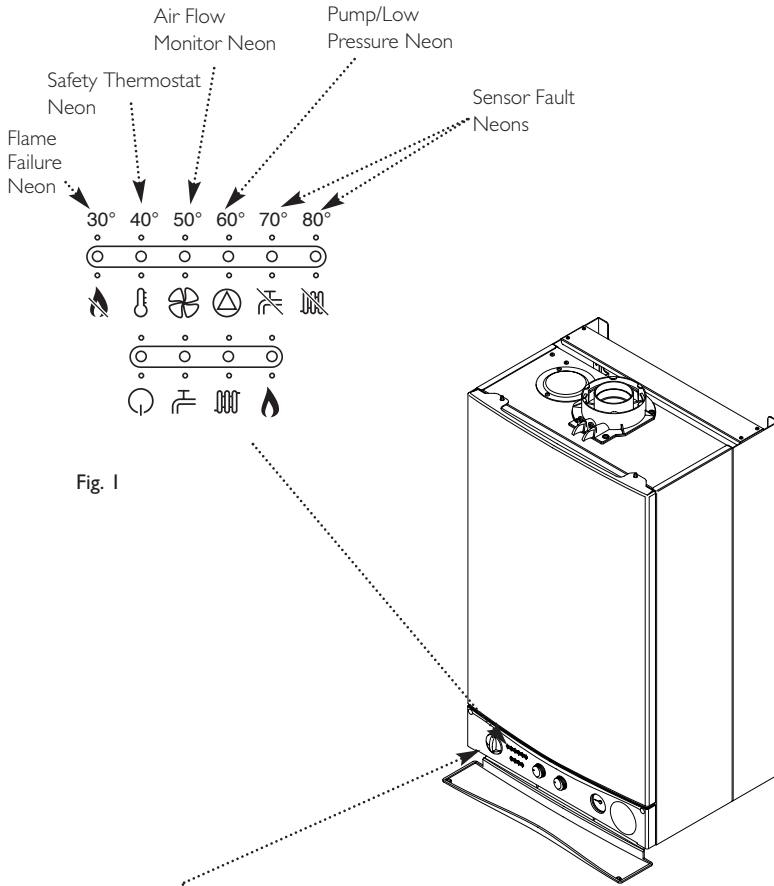

Fig. 1
2. If the () neon illuminates it indicates that the flue or flue terminal is blocked or obstructed in some way, or that there is an internal fault. If there is no external blockage of the flue terminal that can be easily removed contact your Installer or Service Engineer (Fig. 1).
1. The neon () will illuminate if the circulating pump is faulty or the system pressure drops below the minimum requirement (Fig. 1).
1. When either of the () or () neons is illuminated a fault on one of the temperature sensors is indicated (Fig. 1). Contact your Installer or Service Engineer.
1. Your Potterton Performa HE is fitted with an additional safety devices, which shut down the boiler in the event of the system, boiler or flue overheating. The safety thermostat neon () will light in this instance (Fig. 1).
1. The red flame failure neon () will illuminate in the event of the burner failing to light, when incomplete lighting of the burner occurs or blockage of the condensate drain (Fig. 1).